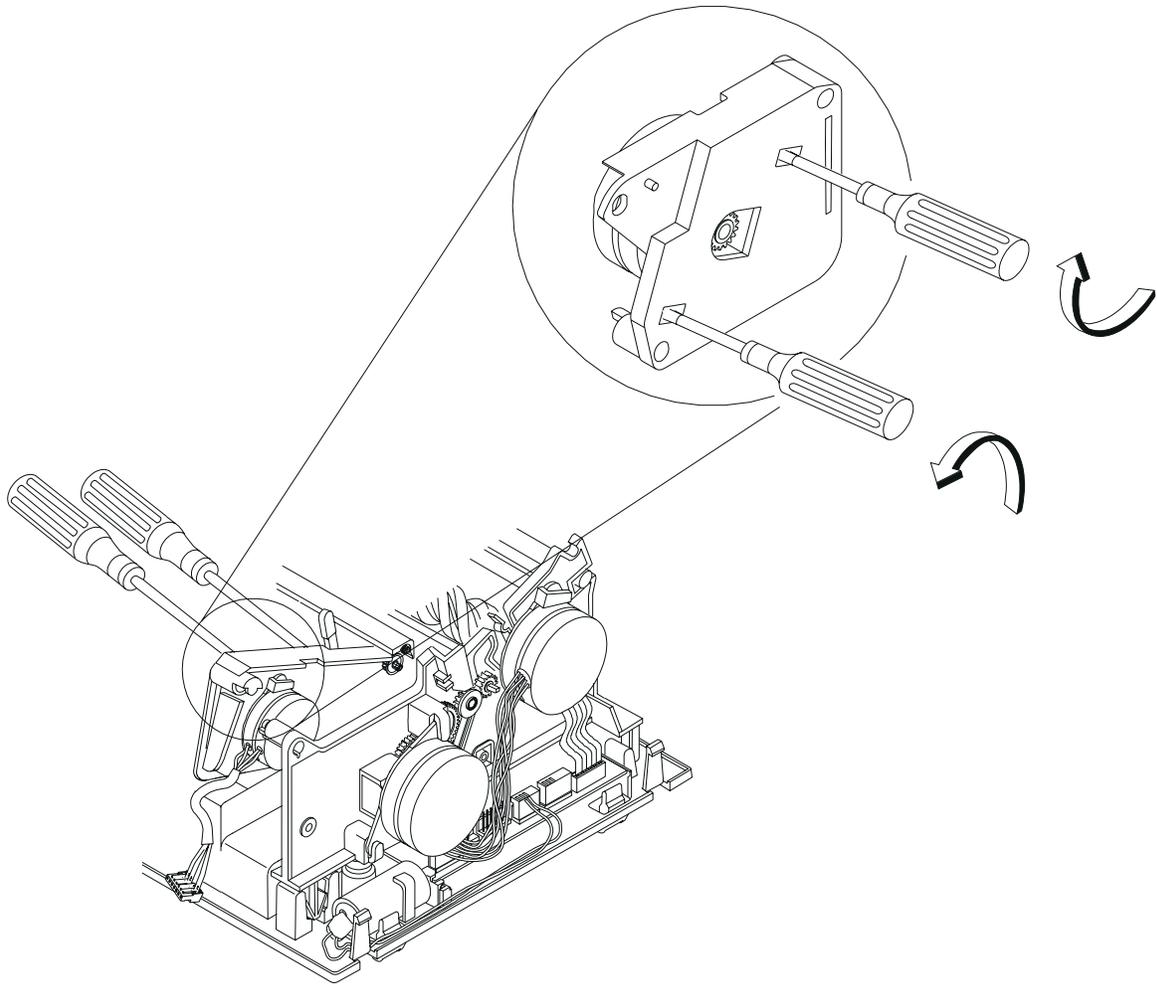

Figure 6-60. CR Motor. The enlarged view has been turned to illustrate where to insert the screwdrivers.
- 7 Insert 2 screwdrivers into the CR motor gear assembly as shown. See Figure 6-60 on page 6-89. Turn the screwdrivers in opposite directions and gently pry the metal flange on the motor in the direction shown until the motor is released from the tabs.